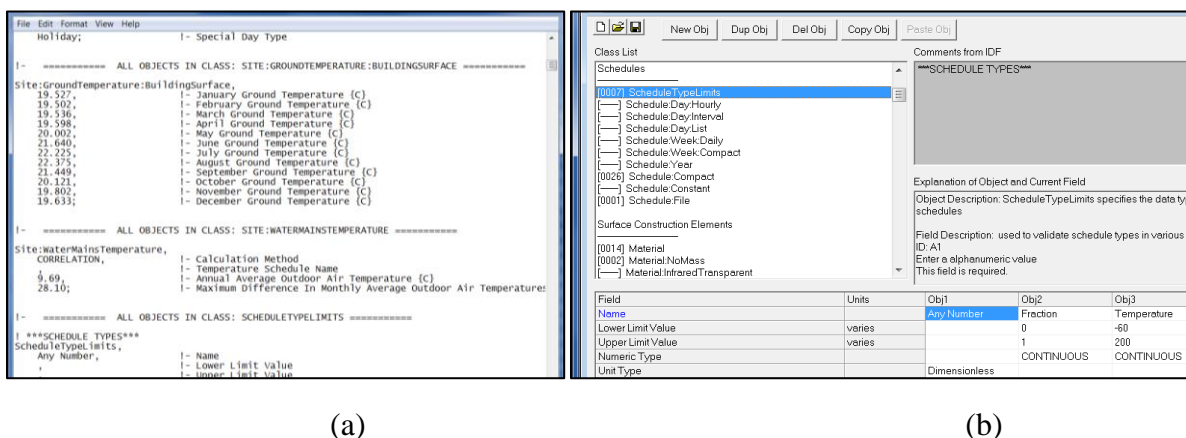

Figure 24. Open (a) text editor or (b) EnergyPlus IDF Editor program
1. Open the EnergyPlus project file, into which you want to import CONTAM infiltration rates, with either a text editor or the EnergyPlus IDF Editor program (Figure 24).